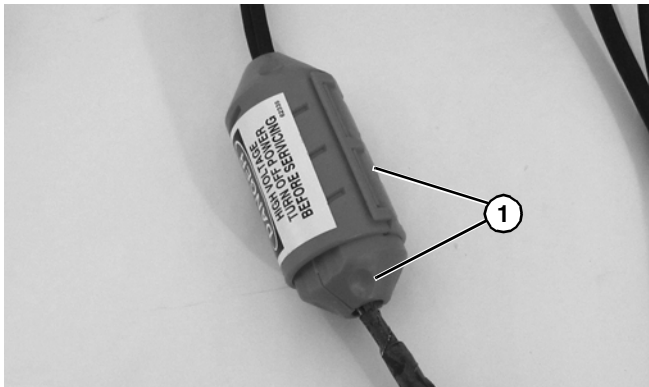

Figure 23
1. Twist covers (**Figure 23, item 1**) apart.